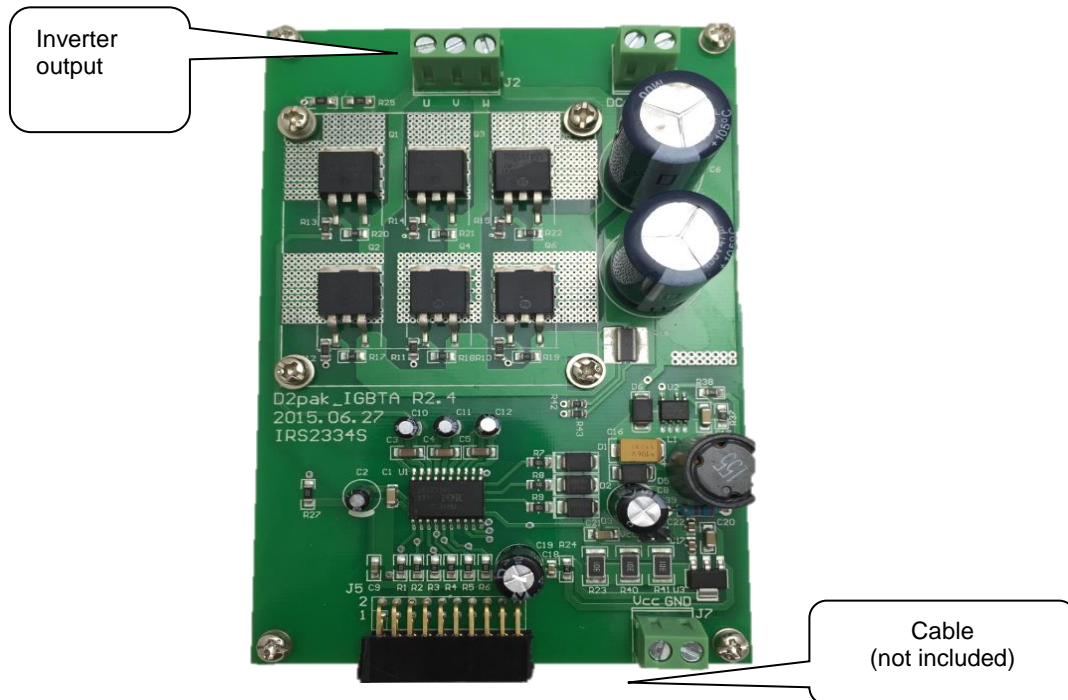

Figure 1 - Connection of control signals to the D2PAK board
1. Connect the system as in Figure 1